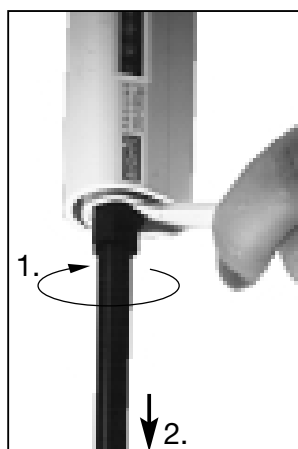
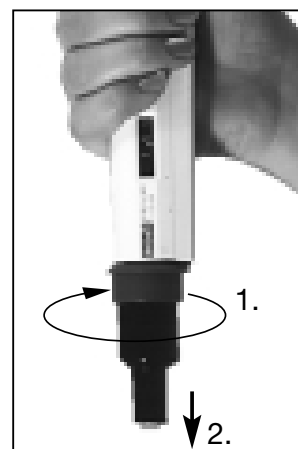

Fig. 12
Fig. 13
4. Place the wrench end of the opening tool over the tip cone, turning it anticlockwise. Do not use any other tools (Fig. 12). The 5 ml tip cone is removed by turning it anticlockwise without any tools (Fig. 13).